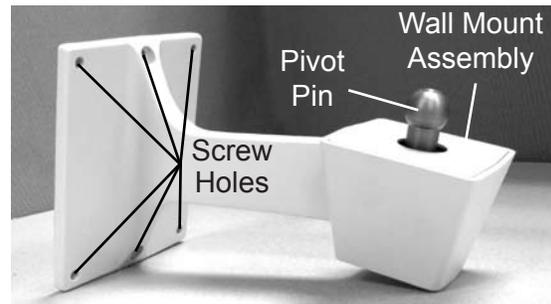

Figure IS-6 Wall Mount Assembly
1. Secure the Wall Mount Assembly to the wall by securing it with six screws. Refer to Figure IS-6.
2. Place the Yoke Assembly on the Pivot Pin. Refer to Figure IS-6.
Note: The Pivot Pin on the Table Mount is the same as the Pivot Pin shown on the Wall-Mount Assembly in Figure IS-6.